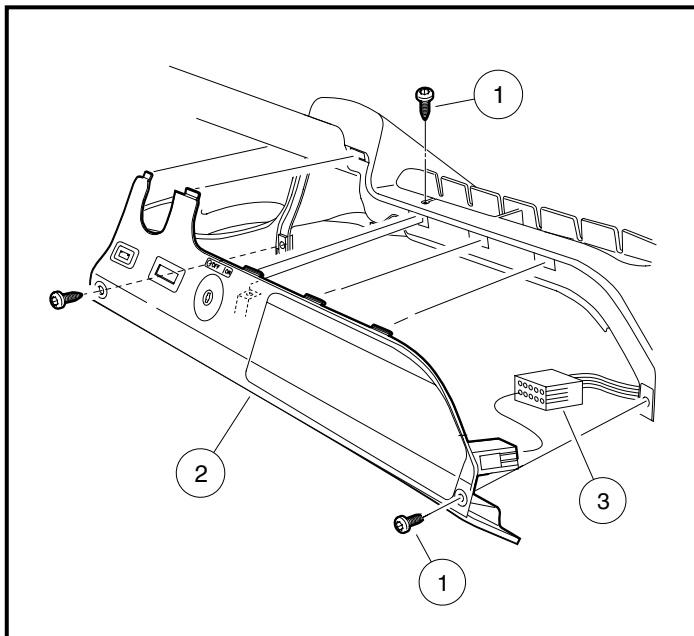

Figure 12-1 Instrument Panel Removal
2. Remove the instrument panel (**Figure 12-1, Page 12-1**).
- 2.1. Remove three screws (1) from the instrument panel (2) (**Figure 12-1, Page 12-1**).
- 3.1. Connect the electrical connector (3) **(Figure 12-1, Page 12-1).**